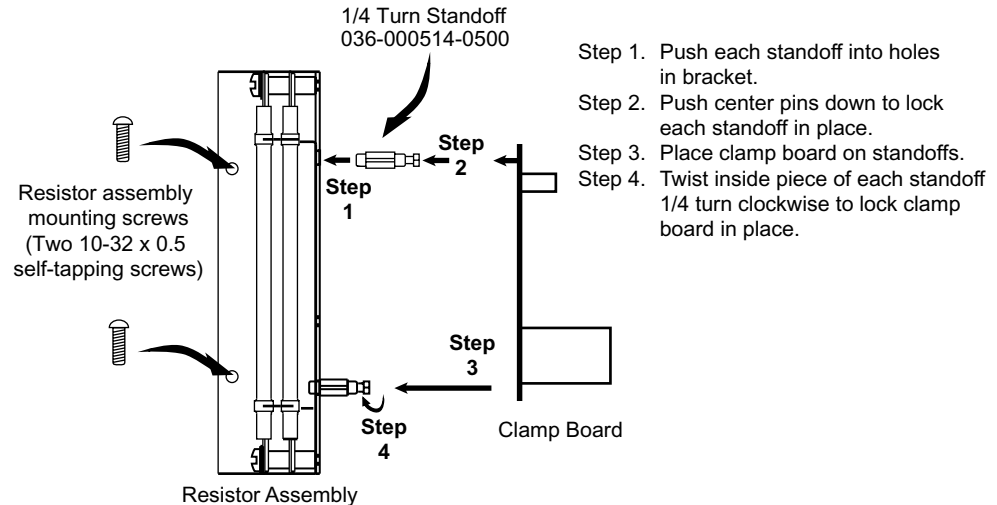

Figure 4: Resistor Assembly and Clamp Board Mounting
1. Mount the clamp board to the resistor assembly, using the four 1/4 turn standoffs as in Figure 4 below.